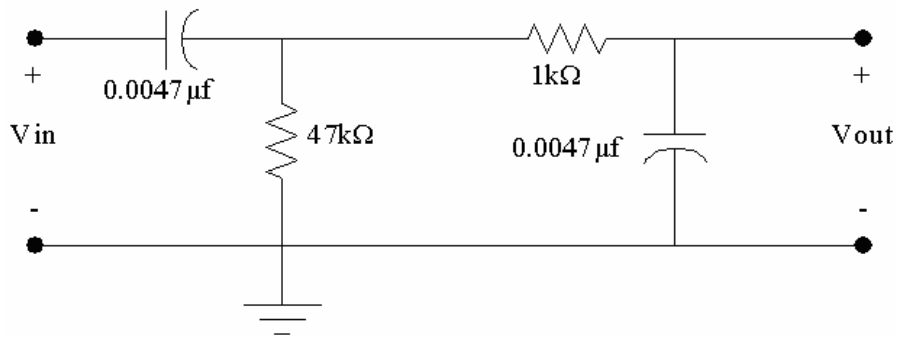

Figure 6. Band pass RC filter.
The final circuit that you will study is a band pass filter that is a combination of the high pass and low pass filters examined previously, as shown in Figure 6.
- Determine the complex transfer function,  $H(\omega)$ , for the circuit of Figure 6. Is it simply an addition of the transfer functions of the low pass and high pass filters studied previously? Why or why not?